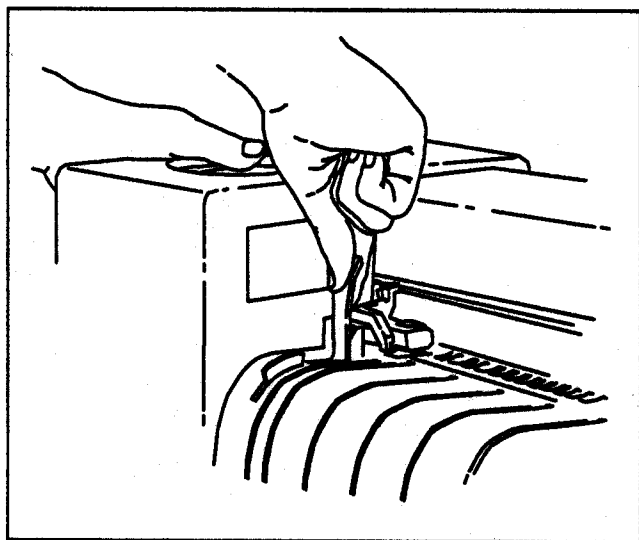

Figure 3-10. Raising The Pinch Wheels
- b. Push the paper load lever, located at the left end of the platen, toward the back of the plotter to raise the pinch wheels. See Figure 3-10.